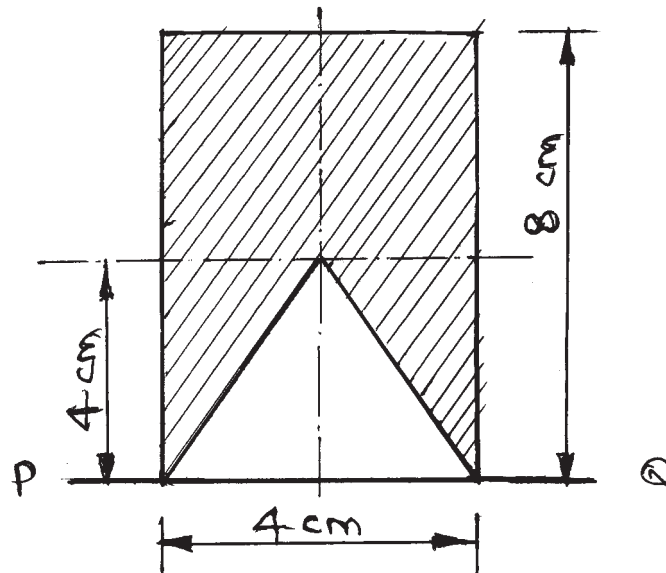

Fig. No. 1
- From a plate $4 \text{ cm} \times 8 \text{ cm}$ a triangular portion is cut-off as shown in Figure No. 1. Calculate MI of remainder about horizontal line PQ passing through base of the lamina.